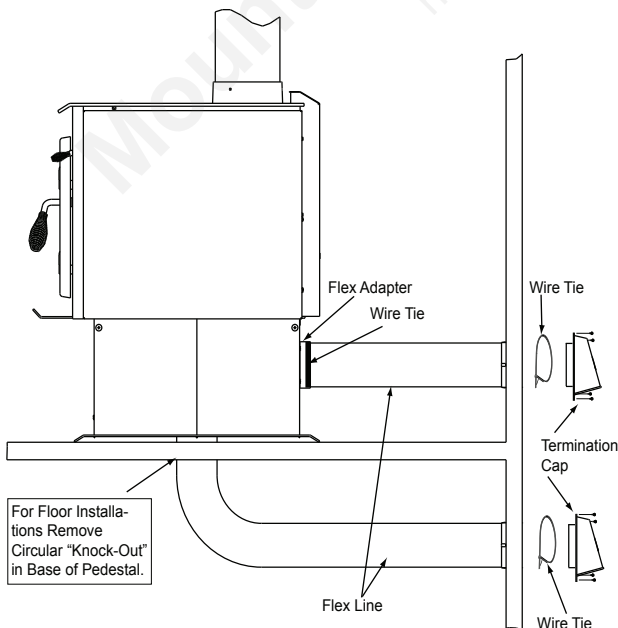

Figure 36.1 - Floor & Rear Installation
2. Using a #2 Phillips screw driver attach the flex adapter to the appliance using 4 screws. Secure with Wire Tie (**Figure 36.1**).
5. Floor Installation Alternative: In some instances you may not be able to install the flex pipe as show in Figure 36.1.